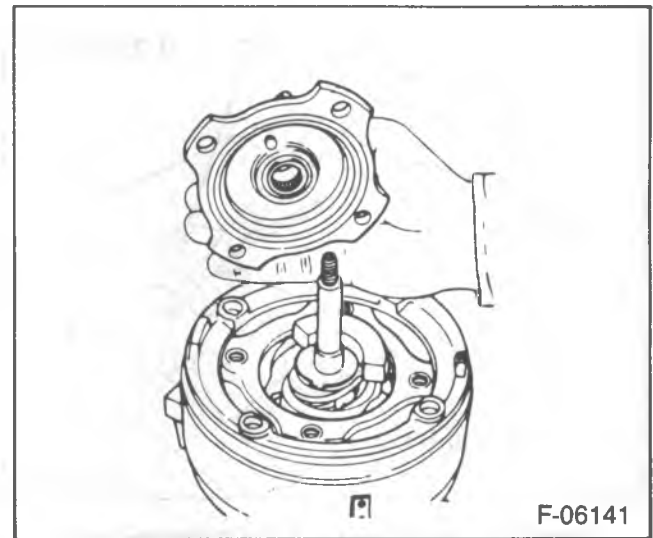

Figure 18—Removing the Front Head Assembly
2. Front head (figure 18).
8. O-ring into the groove of the front head (figure 18).